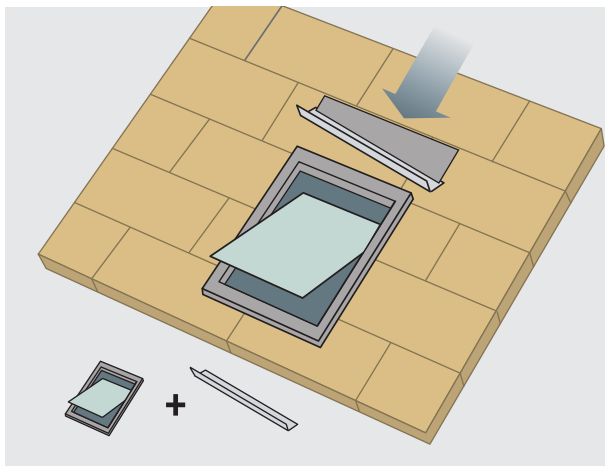

Figure 5
- Openings (e.g. skylights) must be protected by suitable water drainage. Where STEICO universal dry boards are used as a temporary weather protection a controlled drainage of the accumulating water is necessary, even during construction (Fig. 5).